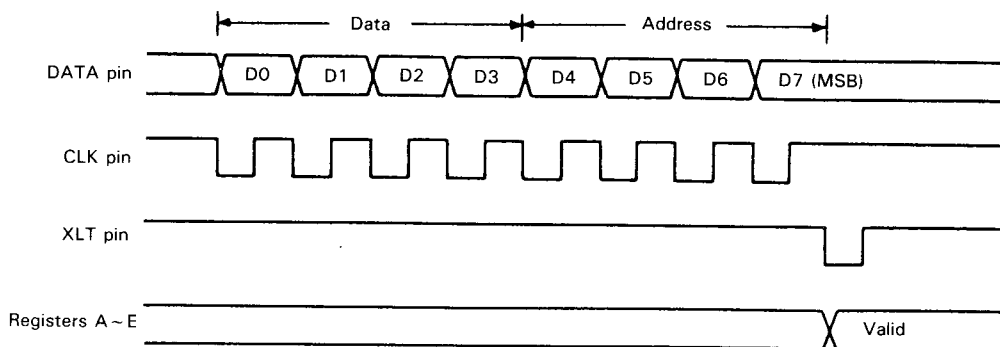
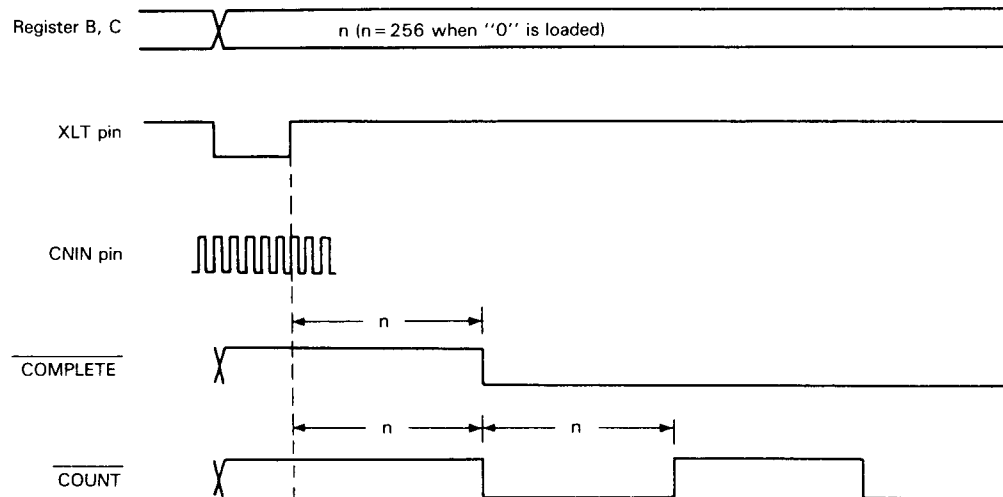

Fig. 1 Timing chart for data input
Fig. 2 Tracking counter timing chart
Each register may be set by input of 4-bit address, and 4-bit data from LSB in the timing that is shown in Fig. 1 to three pins, XLT, CLK and DATA. The address and data of each pin
The tracking counter timing chart is shown in Fig. 2.
- (1) COMPLETE : Address (see note) is "B"; Shown in Fig. 2.
- (2) COUNT : Address (see note) is "C"; Shown in Fig. 2.
- (3)  $\overline{PW \geq 64}$  : Address (see note) is "E"; This signal is of LOW level when the pulse width after bottom hold is over 63, and is of HIGH level otherwise. It is used for detection of a drop in the speed of the spindle motor after braking and so on.
**Note:** Address setting is determined by the data corresponding to D4 to D7, which are input from the DATA pins shown in Fig. 1.